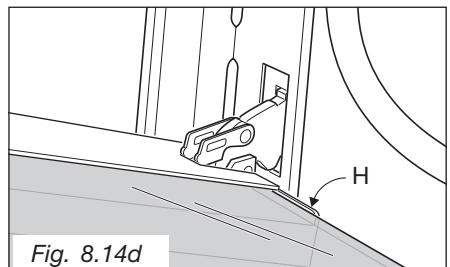

Fig. 8.14d
- Insert the inner pane in the left **E** and right **F** side guides (fig. 8.14c) and gently let it slide up to the retainers **H** (fig. 8.14d).